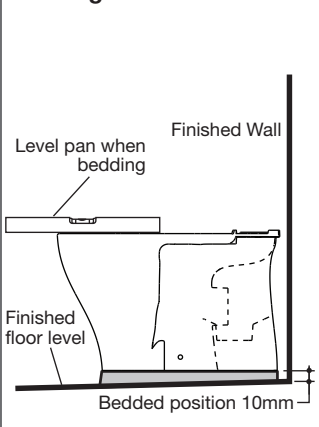

Fig. 3
- 4- Position pan and connect with pan connector and level pan into bedding mixture, so that the back of the foot of the pan is approximately 10mm above the finished floor. It is recommended that wedges are used to support the foot of the pan during the positioning, as detailed in **Fig. 3**.